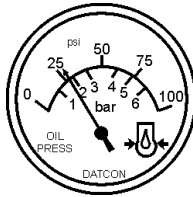

Figure 45. Oil Pressure Gauge
13. The engine oil pressure gauge (Figure 45) will indicate the oil pressure (kg/ cm²) of the engine. Under normal operating conditions the oil pressure should be approximately 25 psi.